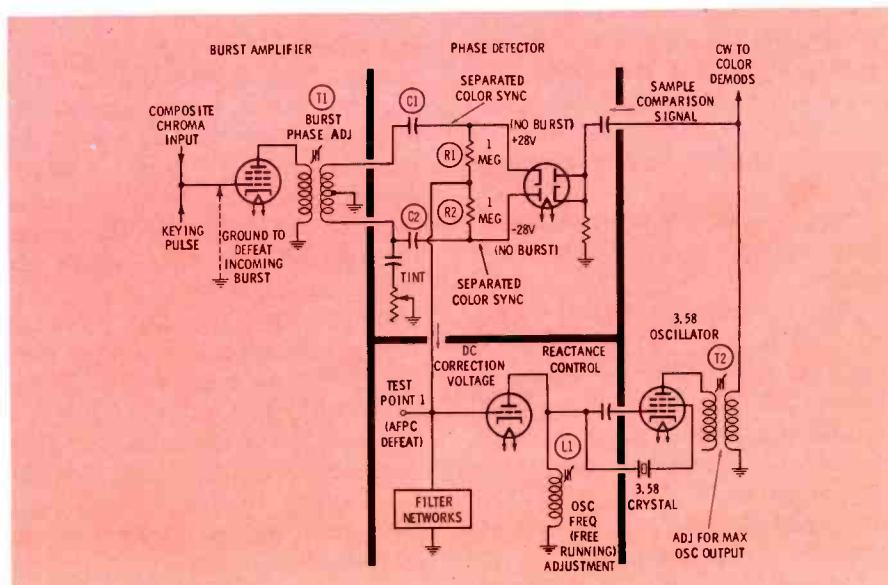

Fig. 4. Simplified schematic of chroma sync stages.
3. If the improper amount of equal voltage is developed, or if zero voltage is developed, check for loss of the sample signal from the oscillator. (The +28 and -28 voltages shown in Fig. 4 are typical with no burst input. For the correct values for any particular chassis the proper PHOTOFAC folder should be consulted. Possible causes of an unbalanced phase de-